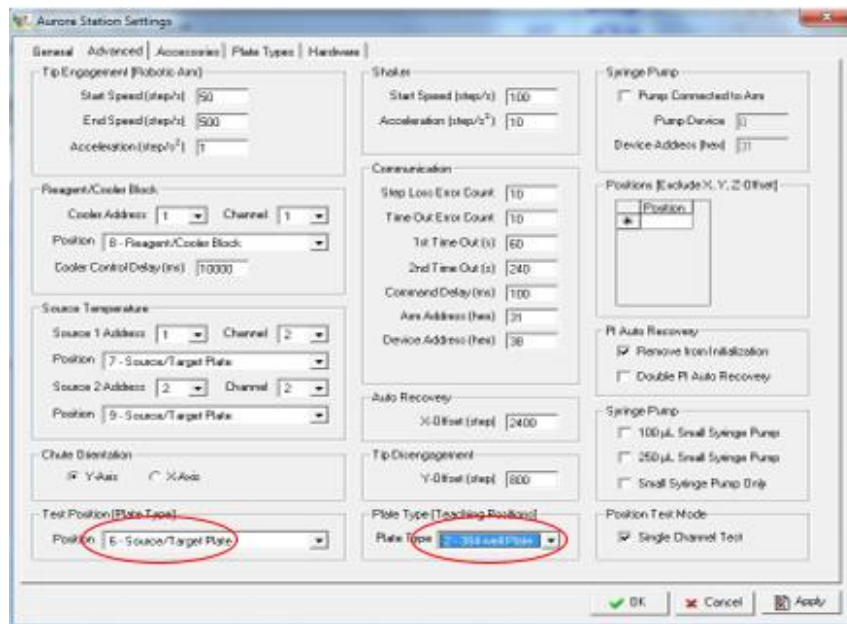

Figure 9-87 Setting the Tip Box Position and Plate Position for Calibration
3. First ensure that the test position for both the tip box and plate type are set by clicking onto the “advanced” tab in Aurora Station Settings. To change or set it, click on the arrow to open options and select the position of choice. Remember that if you select for position 1 (as an example) for 20/50/200 μL tip box that you must place a tip box in position 1 on the deck available. You will need to “reload” tip boxes. The same goes for the plate type you want to test. If the test position for your plate is selected as 5, the appropriate plate type for test should be in that position (Figure 9-87 Setting the Tip Box Position and Plate Position for Calibration).